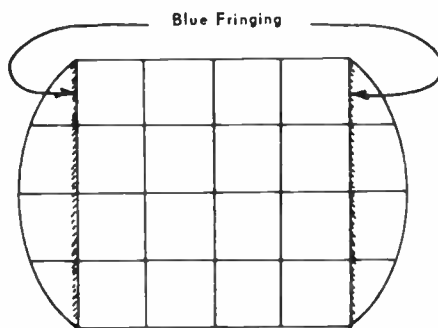

Fig. 1
2. Observe the vertical lines of a cross hatch pattern. If blue fringing shows mainly on the outside as illustrated in Fig. 1, this is defined as a wide blue raster.
4. Straighten all terminals on each socket except the cathode pins which should be bent away from the socket as shown in Fig. 1.